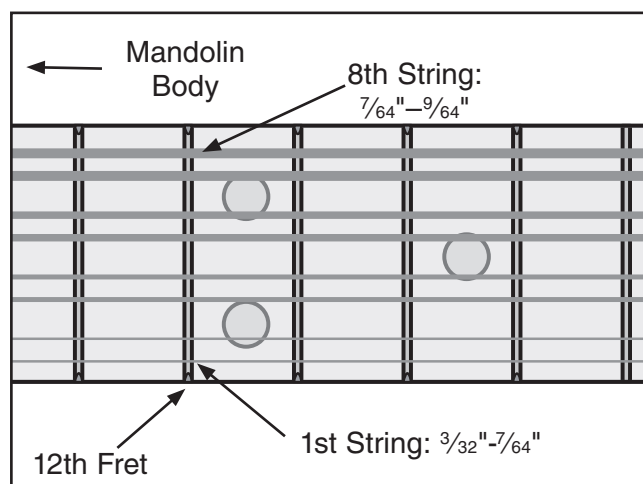

Figure 43. Correct 12th fret string heights.
1. Measure the string height at the 12th fret (**Figure 43**). The first string measurement should be $\frac{3}{32}$ "- $\frac{7}{64}$ "; the 8th string should be $\frac{7}{64}$ "- $\frac{9}{64}$ ".